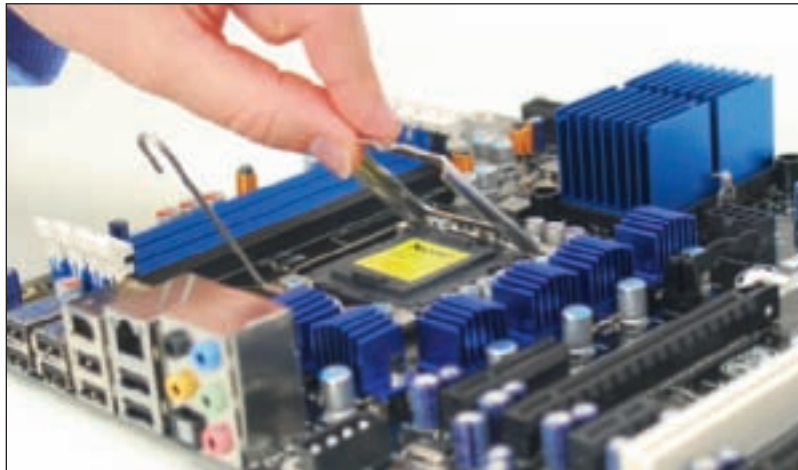

Figure 6-21 Lift the socket load plate
4. Lift the socket load plate, as shown in Figure 6-21.